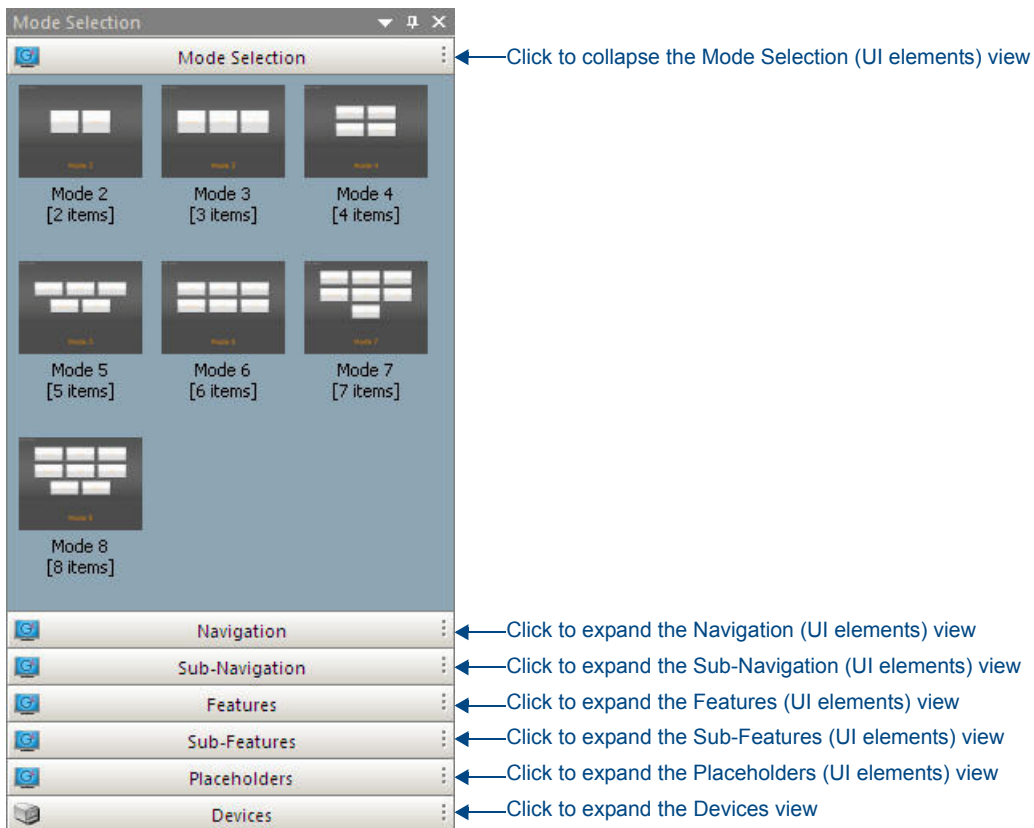

FIG. 144 Toolbox (with a UI tab selected in the Diagram area)
1. In the *Toolbox*, click on an UI element tab to display the UI elements of that type available to choose from, within the template currently applied to this panel (FIG. 144).